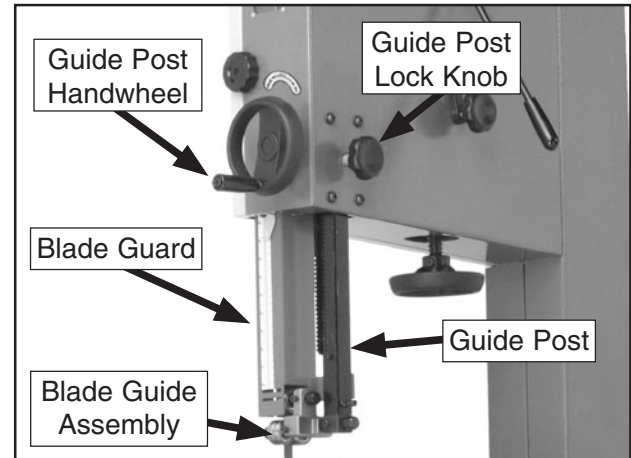

Figure 60. Guide post controls.
The guide post, shown in **Figure 60**, connects the upper blade guide assembly to the bandsaw. The guidepost allows the blade guide assembly to move up or down to be as close to the workpiece as possible. In order to cut accurately and safely, the bottom of the blade guide assembly must be no more than 1" above the workpiece at all times—this positioning provides the greatest blade support and minimizes the amount of moving blade exposed to the operator.
3. Loosen the guide post lock knob shown in **Figure 60**.